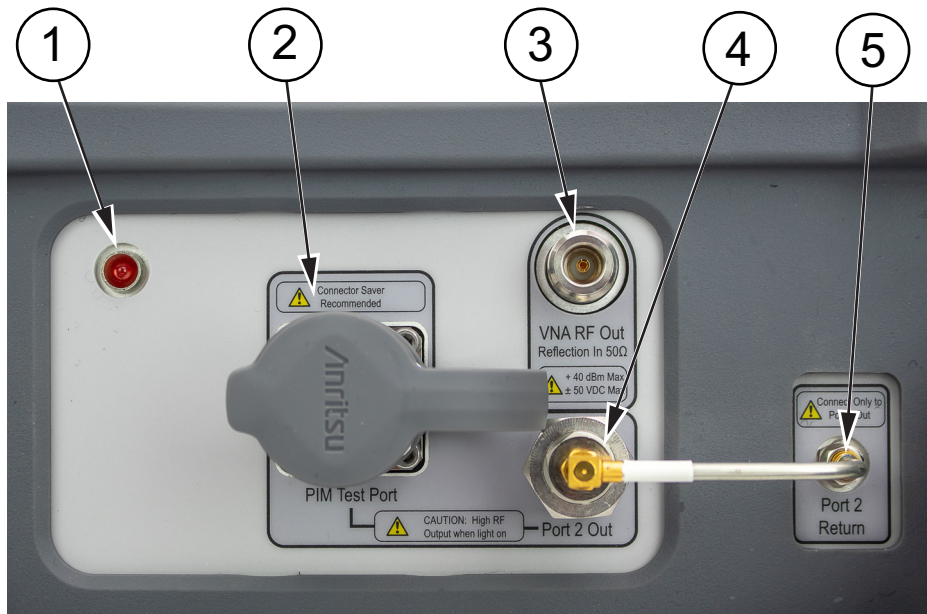

Figure 2-7. PIM Master Top Panel Layout: 2-Port
Port 2 Out Connector (item 4 in Figure 2-7)
Port 2 Return Connector (item 5 in Figure 2-7)